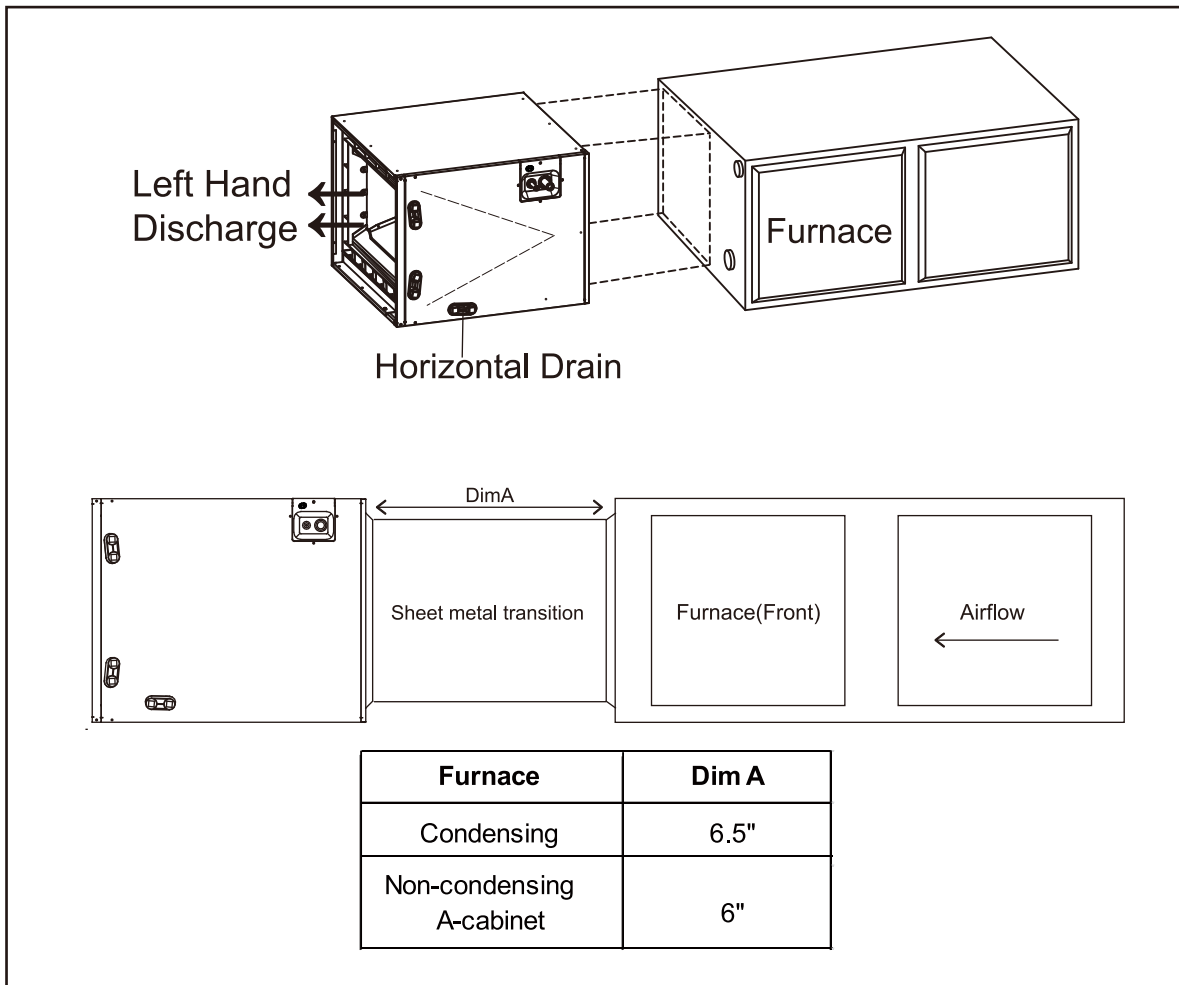

Fig. 3-2 Transition for horizontal left orientation
3. If the coil is used in connection with an upflow furnace in horizontal left orientation, a sheet metal transition can be installed between the furnace supply air outlet and the evaporator coil supply air inlet to create clearance between coil lineset and furnace flue outlet for A-cabinet non-condensing furnaces and for all cabinet size condensing furnaces. See Fig. 3-2